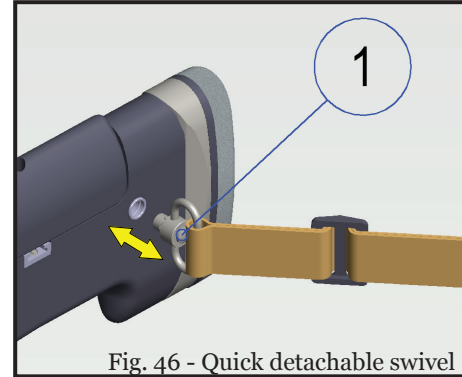

Fig. 46 - Quick detachable swivel
The sling is multipurpose, and has several functions (Fig. 46):
Optional quick detachable (QD) sling is attached by pushing the button in the center of the QD sling swivel and by pulling the swivel out of its attachment point (Fig. 46).